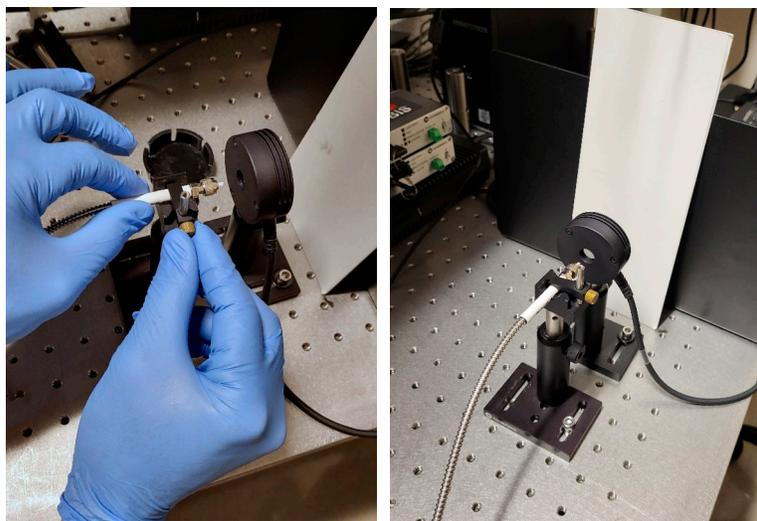

Figure 4-44. Fiber Output End Directed at Sensor
12. Put the output end of the fiber toward and directed into a power sensor, with all laser safety precautions followed. Refer to Figure 4-44.